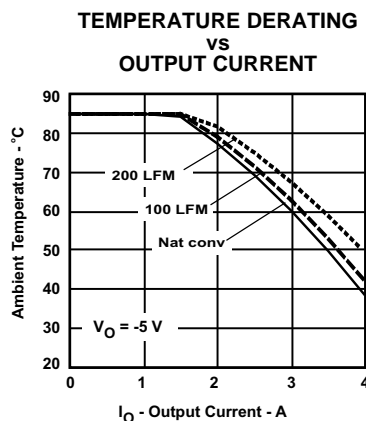
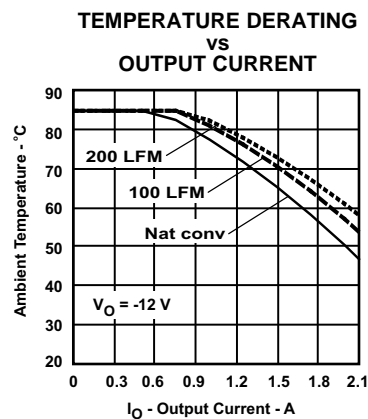
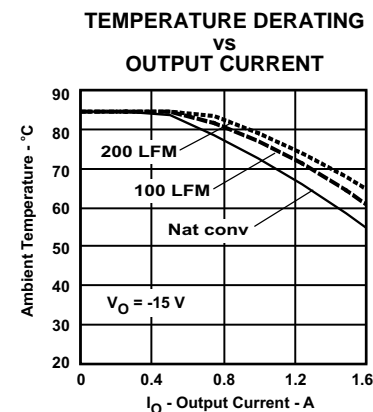

Figure 4.
Figure 5.
Figure 6.
- (2) The temperature derating curves represent the conditions at which internal components are at or below the manufacturer's maximum operating temperatures. Derating limits apply to modules soldered directly to a 100 mm x 100 mm, double-sided PCB with 2 oz. copper. Applies to Figure 4, Figure 5, and Figure 6.